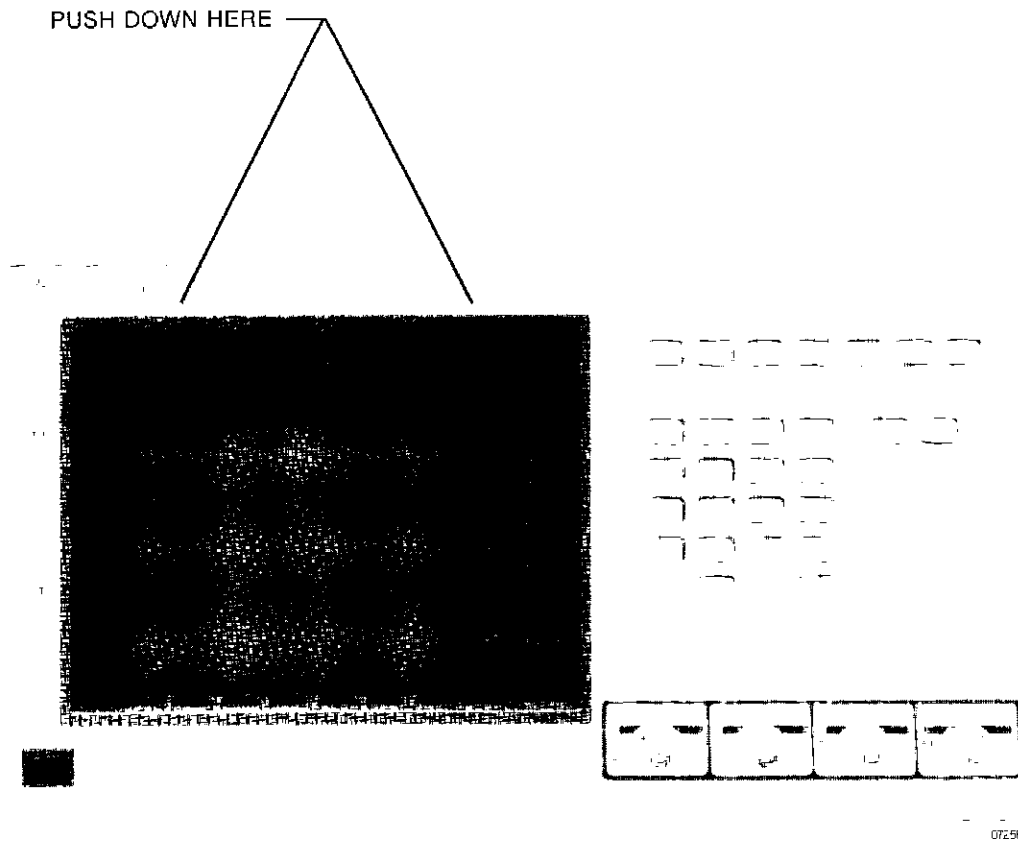

Figure 6-5. CRT Bezel Removal Pushing Locations.
1. While pushing down on top edge of bezel (see figure 6-5), pull top edge away from front panel until holding tabs are clear of the front panel.